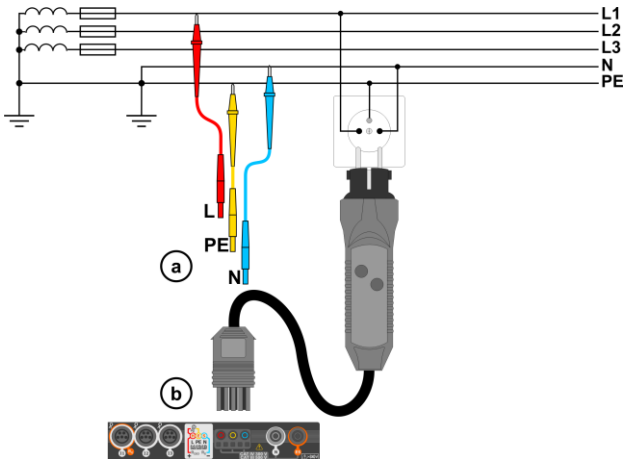
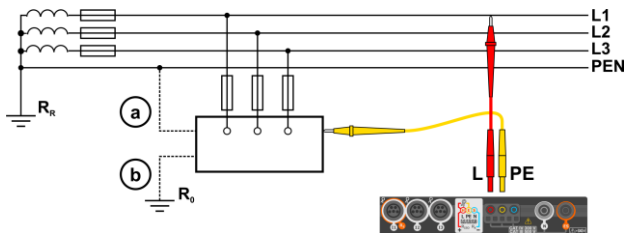

Fig. 3.1 Measurement in L-PE circuit
Fig. 3.2 Checking effectiveness of protection against electric shock of the meter housing in case of: (a) TN network or (b) TT network
① Connect test leads according to Fig. 3.1 or Fig. 3.2.